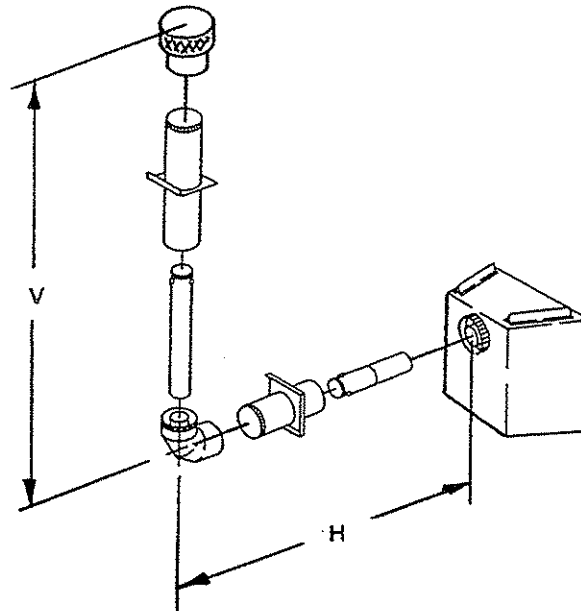

FIGURE 6
Figure 6 and Table 3 show examples of possible installations using one (1) 90-degree elbow. Dimension V is listed as **MINIMUM** vertical dimensions and dimension H is listed as corresponding **MAXIMUM** horizontal dimensions. Vertical dimensions are based on centerline of pipe to end of termination. Horizontal dimensions are based on back of unit to centerline of pipe. A vent system using one 90-degree elbow will result in a vertical termination.